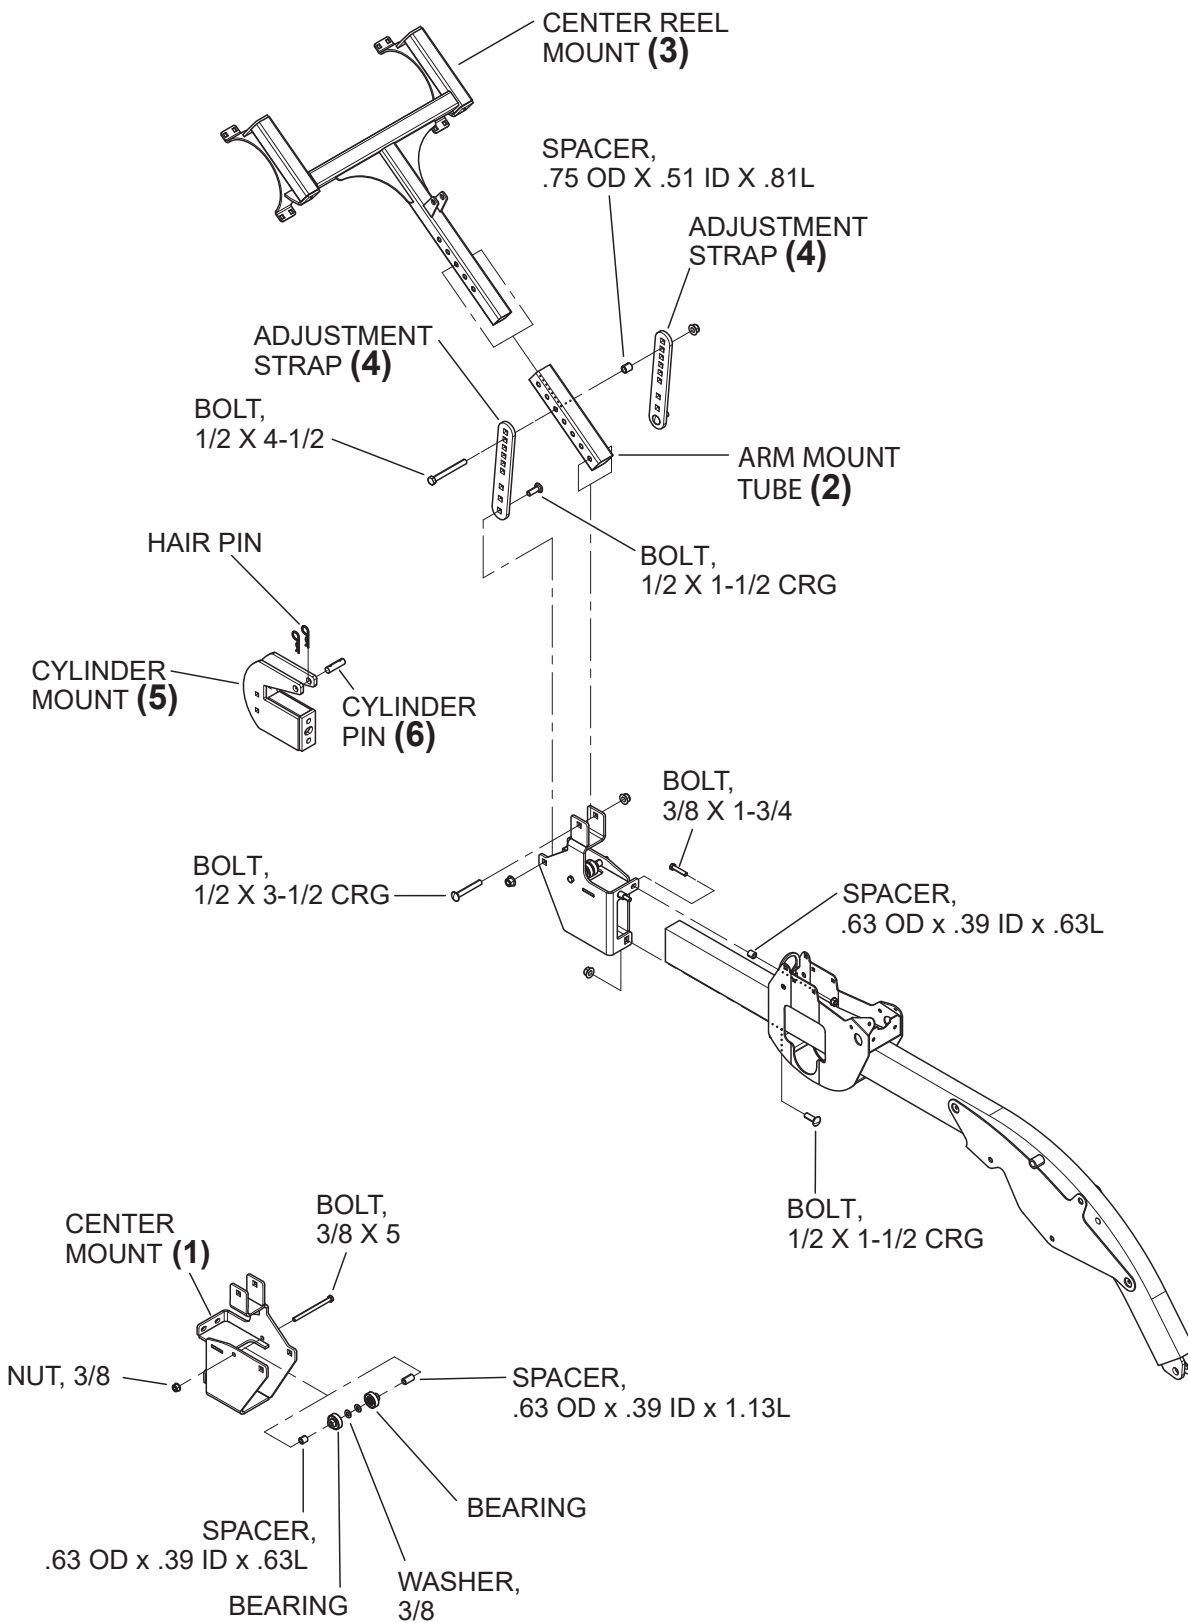

Figure 39: Center reel arm mount assembly (FD70 & CIH 2162 headers)
1. Assemble the bearings using the .63 OD x .39 ID x .63L and .63 OD x .39 ID x 1.13L spacer, washers, 3/8 x 5" bolt and nut to secure the bearings to the center mount **(1)**. (Figure 39)
5. Using a 1/2" x 3-1/2" carriage bolt and nut, attach an end hole of the arm mount tube **(2)** to the clevis of the center mount **(1)** (Figure 39).
7. Attach the adjustment straps **(4)** to the arm mount tube **(2)** and center reel mount **(3)** with a 1/2" x 3-1/2" bolt, nut and .75 OD x .51 ID x .81L spacer. (Figure 39)